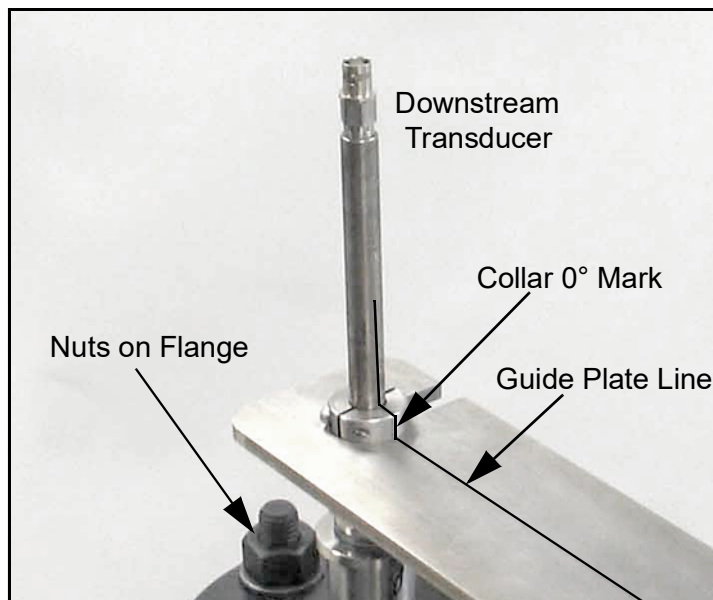

Figure 12: Locking Collar 0° Mark Aligned with Guide Plate Line
- Check to see if the 0° mark on the side of the locking collar is aligned with the line on the guide plate. If they are not aligned, then loosen the nuts on top of the barrel flange and rotate the transducer assembly until the two lines are aligned (see *Figure 12* below). Then, re-tighten the nuts.